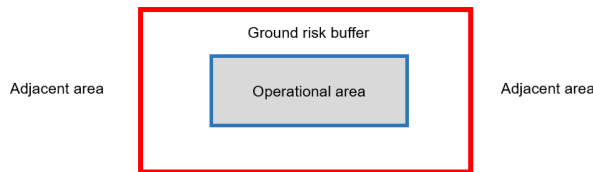

Figure 1. Operational area and ground risk buffer operational area
3.2 Locations. Location(s) where the UAS operator intends to conduct the UAS operation. The identification of the location(s) should contain the full operational volume and ground risk buffer (the red line in Figure 1). Depending on the initial ground and air risk and on the application of mitigation measures, the location(s) may be 'generic' or 'precise'.